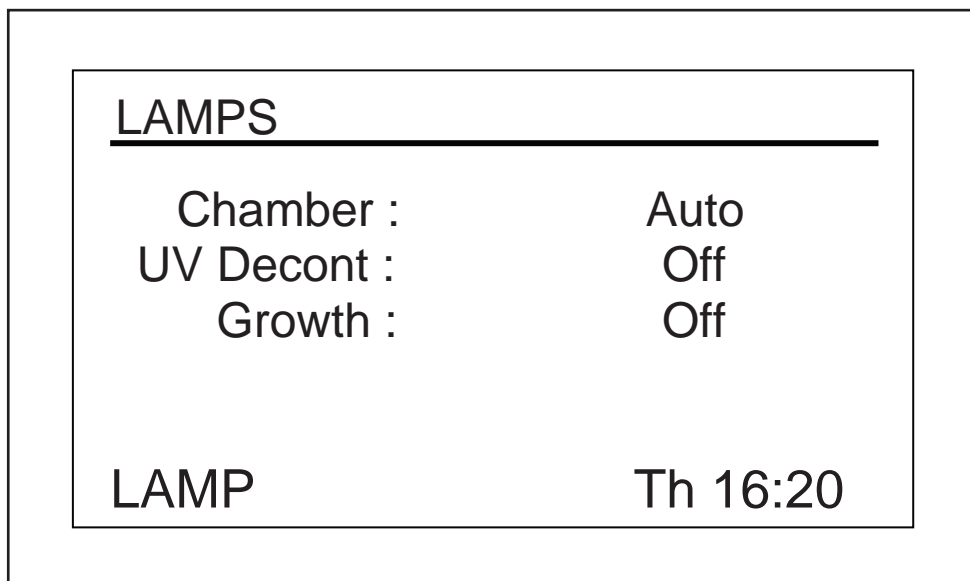

Fig. 9-6: Lamps screen
In this screen (see Fig. 9-6 on p. 53), you can turn the chamber light (*Chamber*), the optional UV germicidal (decontamination) lamp (*UV Decont*) and the optional photosynthetic growth lamps (*Growth*) on and off. *On* means the light is always on, and *Off* means the light is always off, unless you add additional programming (see *Program the shaker on p. 57*).
The current setting will flash (in the sample screen, we will use the *Chamber* light as an example (see Fig. 9-6 on p. 53)).
2. Turn the knob left or right until the desired mode setting appears (*Auto* in this example (see Fig. 9-6 on p. 53)).